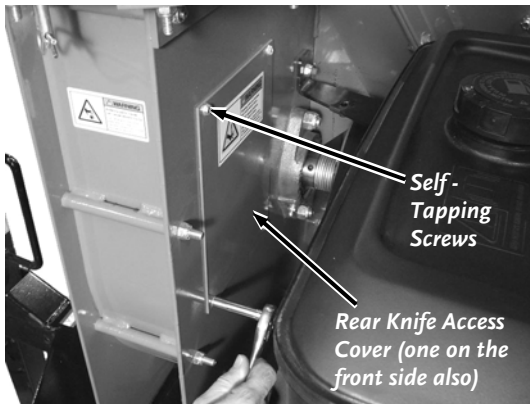

Figure 34
2. Using a 5/16" Wrench, remove the Self-Tapping Screws and remove both Knife Access Covers from the front and back of the Chipper Assembly (**Figure 34**).